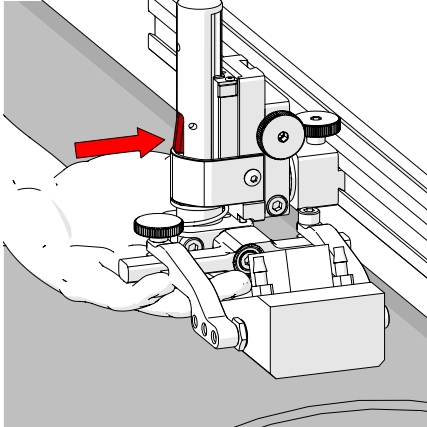
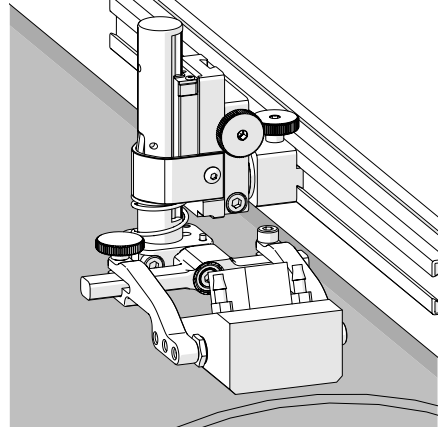

Fig. 85 - Press latch button
Fig. 86 - Lower toward scan surface
4. Lift the yoke slightly and press the latch button (Fig. 85), then slowly lower towards scanning surface to apply spring pressure to the wedge (Fig. 86).